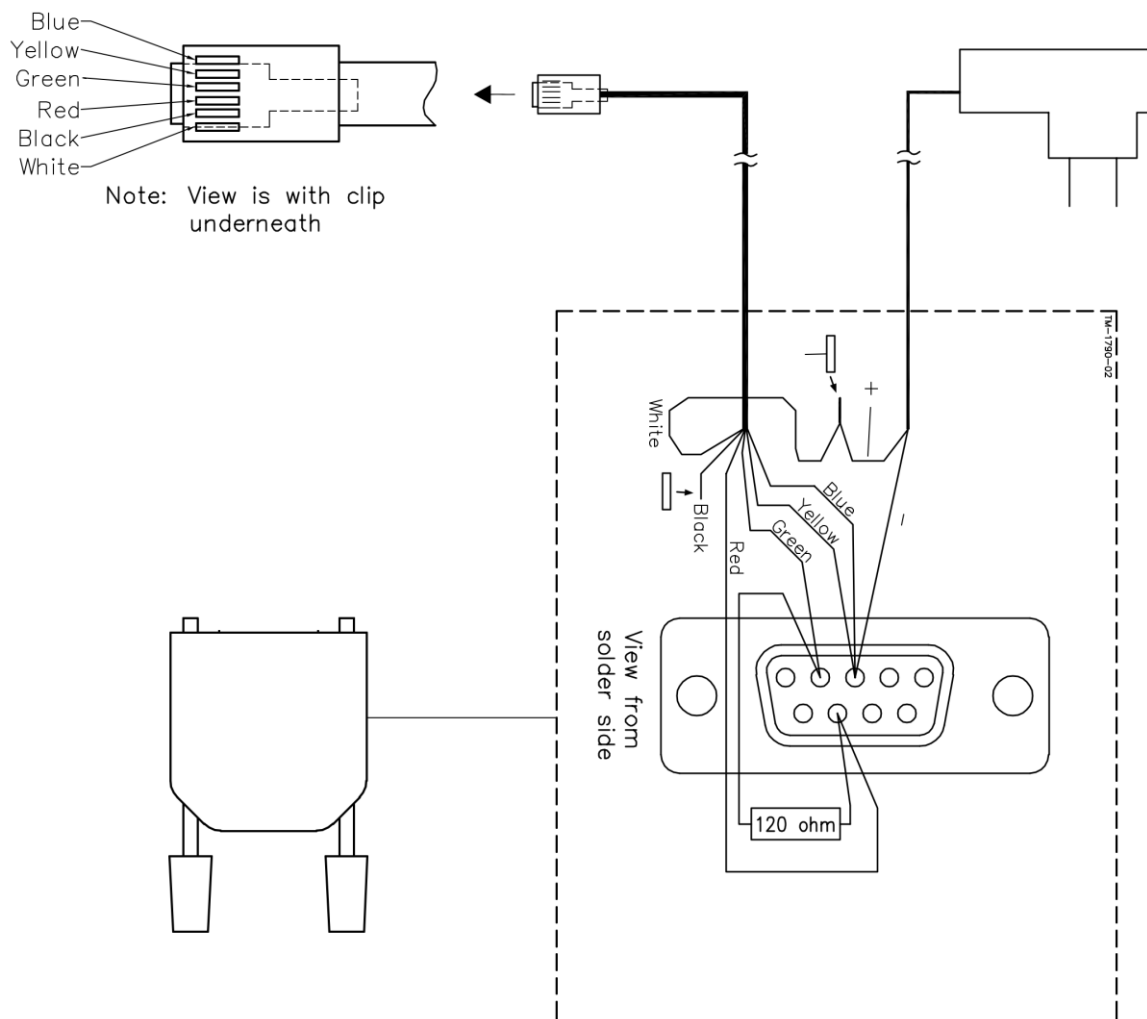

Figure 1: Part no 76620
This cable set can also be manufactured by the customer using Figure 1.
- Pin 5 and 6 of the modular plug, the white and black cable in Figure 1, must be connected together.
The end with the CAN interface is taken care of by the cable set described in Figure 1. But in the other end, in the last ETM-Solo sensor, a terminator is also needed.